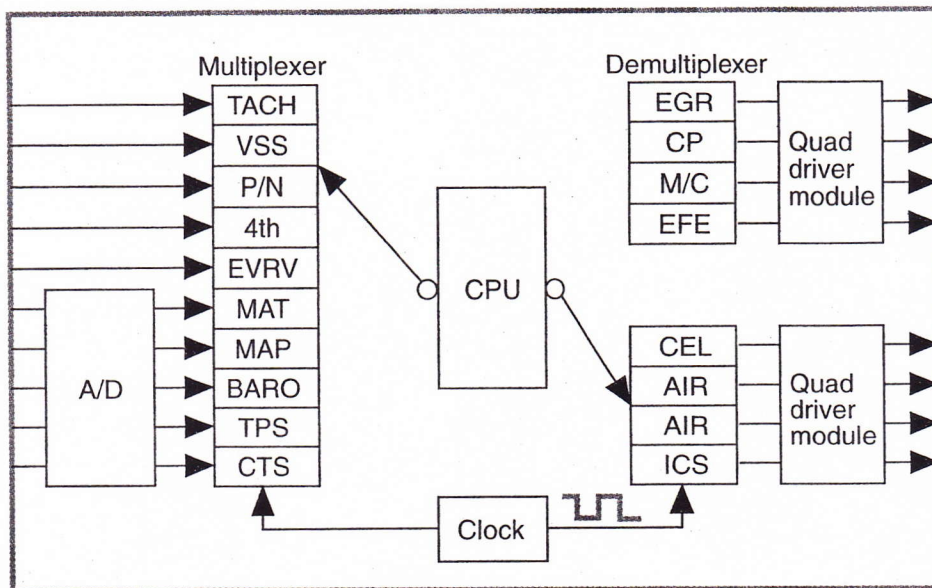

FIGURE 15-35 Block diagram representation of the MUX and DEMUX circuit.
- outputs (Figure 15-35). The process that the MUX and DEMUX operate on is called **sequential sampling**. This means the computer will deal with all the sensors and actuators one at a time.